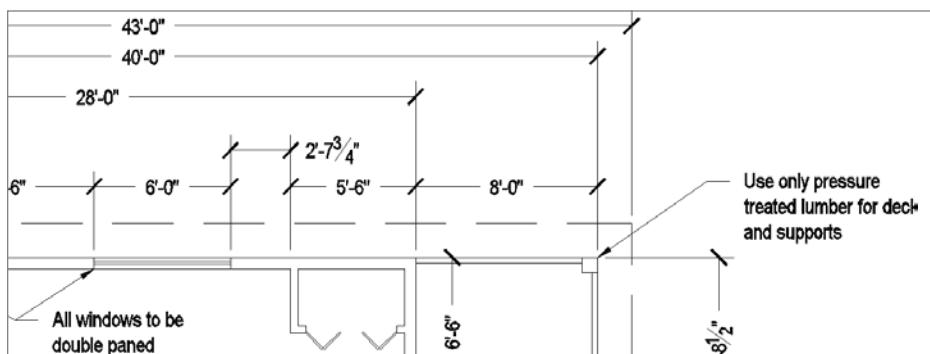

FIGURE 12.52 A modified view of the floor plan
1. Zoom and pan until your view of the floor plan is similar to Figure 12.52.